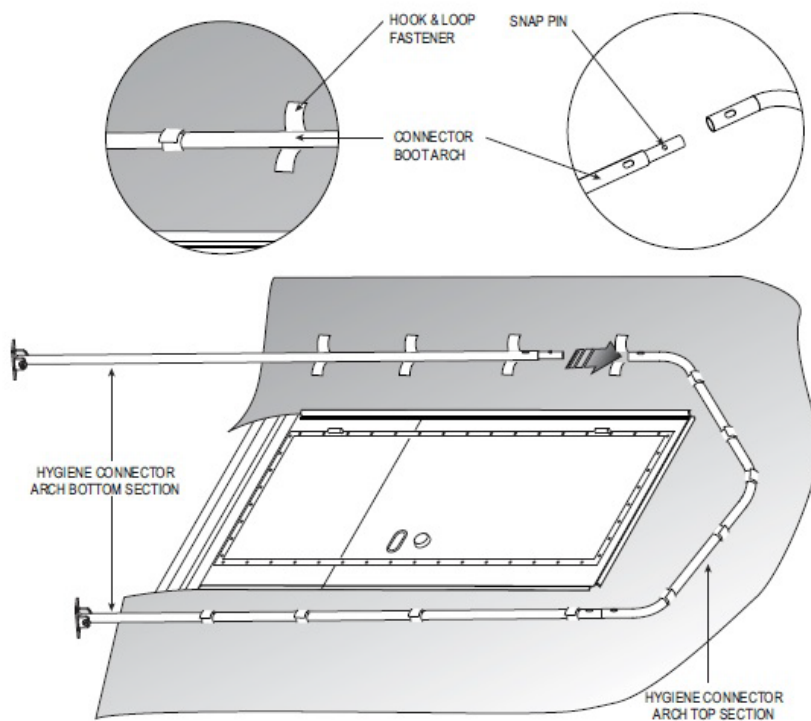

Figure 2-72. EBS arch sections.
Locate the (2) bottom tensioning arch sections, with base pads, and the (1) top tensioning arch section. Assemble the arch sections and attach to the connector boot end panel, while the entry end wall is laying down (fig. 2-72). Prop the connector boot end panel up on the connector arch, between the EBS and the shelter end, when the EBS entry end is raised.